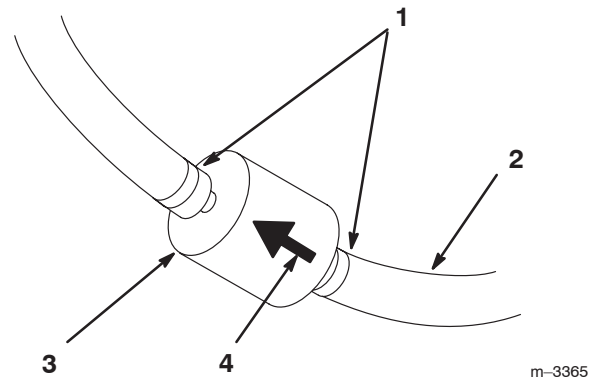

Figure 45
5. Squeeze the ends of the hose clamps together and slide them away from the filter (Fig. 45).